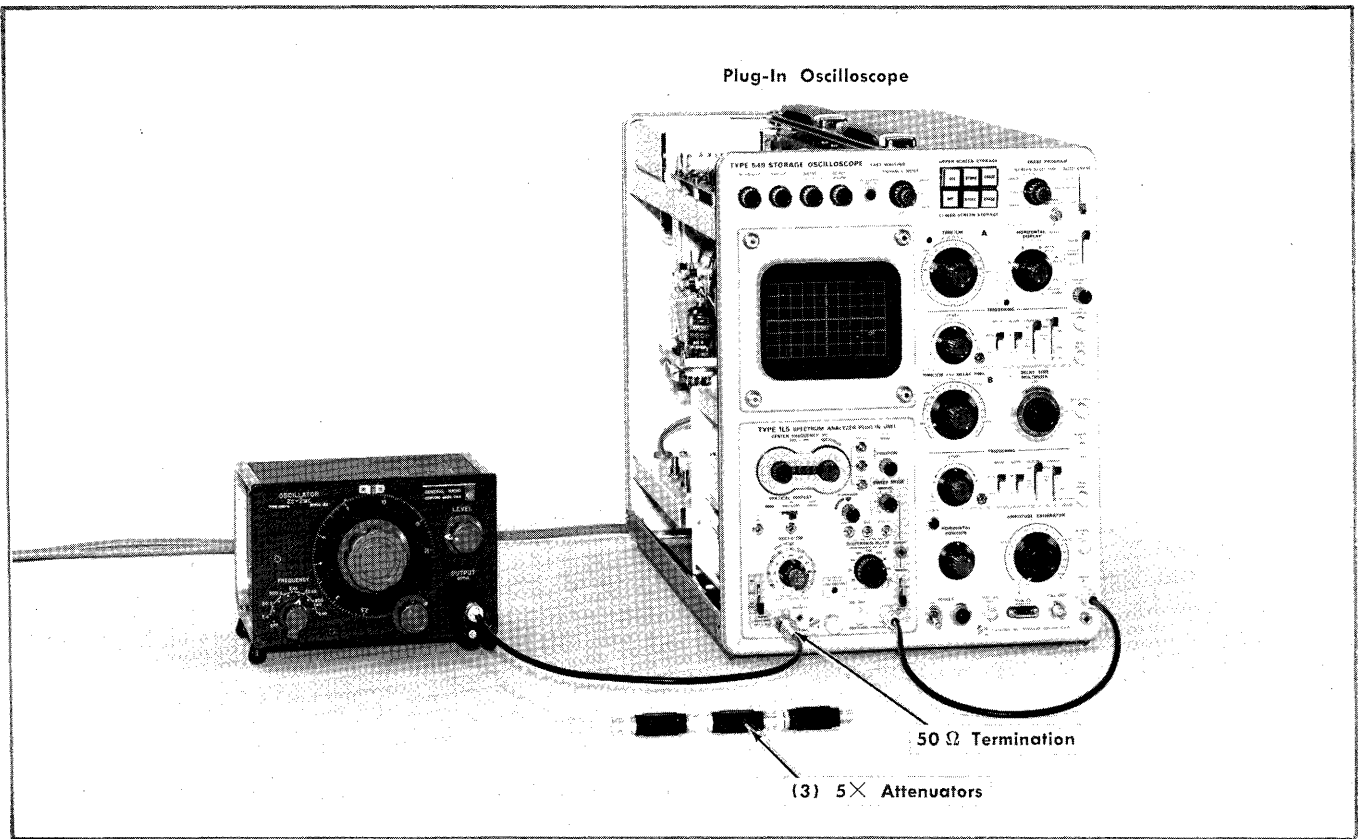

Fig. 6-20. Equipment setup to check incidental FM.
a. Equipment setup is shown in Fig. 6-20.